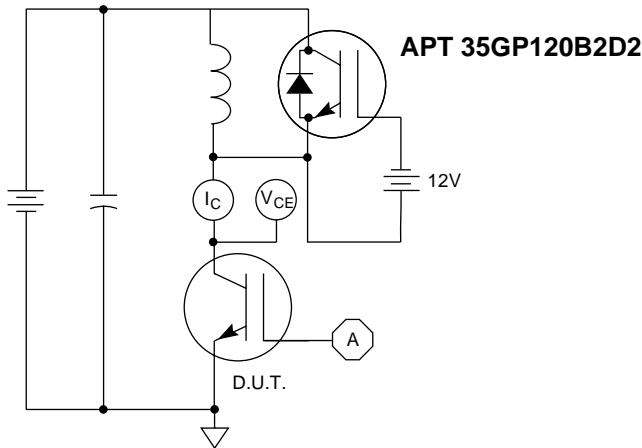

Figure 23, E_{ON2} Test Circuit
- ⑤ E_{on2} is the clamped inductive turn-on energy that includes a commutating diode reverse recovery current in the IGBT turn-on switching loss. If the device is a Combi, the same device type is used for the clamping diode as shown in the E_{on2} test circuit in Figure 23. If the device is not a Combi, a diode of similar current rating as the IGBT is used for the clamping diode. (See Figures 23, 24).